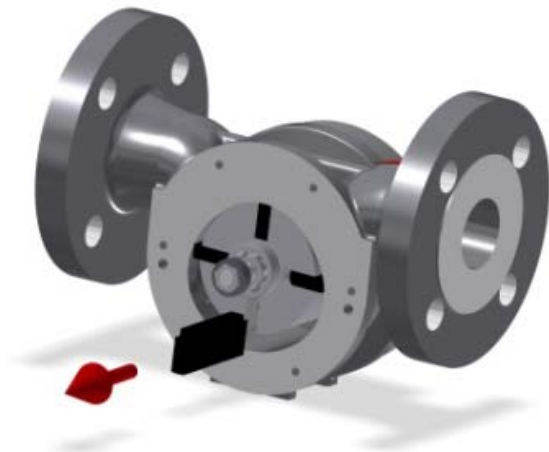

Figure 33 – Taking the vanes out of the housing
2. Take out the vanes, as shown in Figure 33.